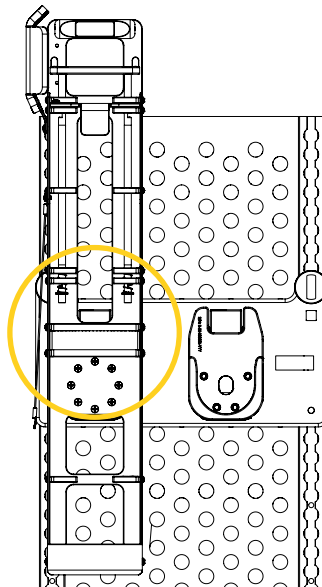

Figure 5: Cinch strap location
1. Pull the tip of the cinch strap (Figure 5) and remove it from the ring to detach the strap.